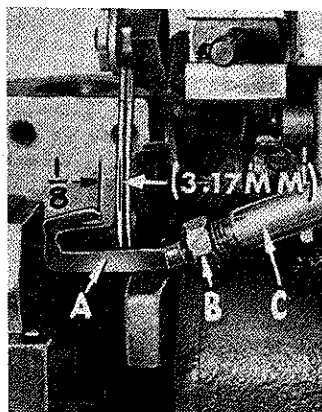

Fig. 4
At this point, insert lower spreader (A, Fig. 4) or lower looper (depending on the Style of machine) into bar (B). With the lower spreader or lower looper at the left end of its stroke, set the spreader point or looper point $\frac{1}{8}$ inch (3.17 mm) to the left of left needle centerline using looper gauge No. 21225 G- $\frac{1}{8}$. Do not have lower spreader or lower looper deflecting the needles. Tighten nut (C).